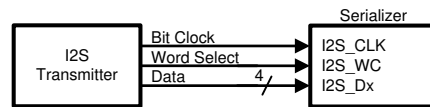
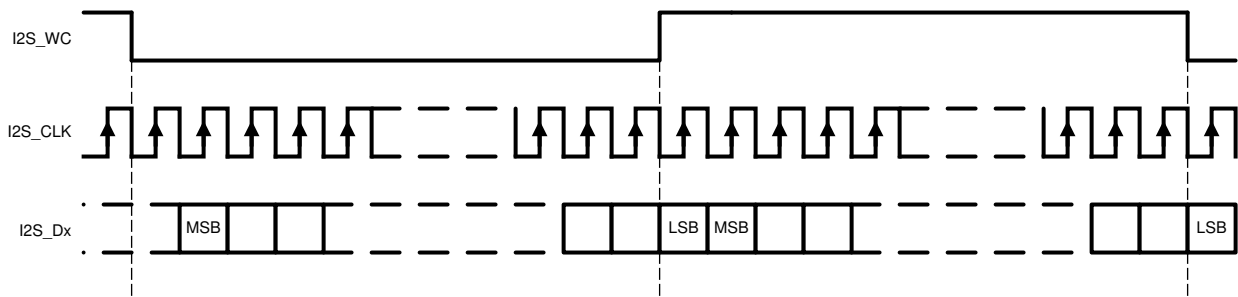

Figure 21. I²S Connection Diagram
Figure 22. I2S Frame Timing Diagram
The DS90UB947N-Q1 serializer features six I²S input pins that, when paired with a compatible deserializer, supports 7.1 High-Definition (HD) Surround Sound audio applications. The bit clock (I2S_CLK) supports frequencies between 1 MHz and the lesser of CLK/2 or 13 MHz. Four I²S data inputs transport two channels of I²S-formatted digital audio each, with each channel delineated by the word select (I2S_WC) input. Refer to Figure 21 and Figure 22 for I2S connection diagram and timing information.